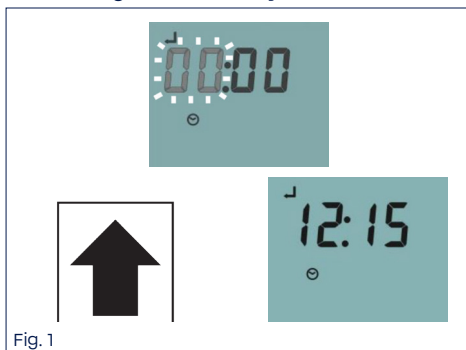

Fig. 1
Once service position has been located the SET and CLOCK symbols will illuminate in the LCD display to prompt setting the current time. The first two digits (12) of the display will flash prompting the installer to set the hour (Fig 1) The value is adjusted by using the [UP], [DOWN] keys. Pressing the [SET] key enters the value. This can then be repeated to set the minute value.